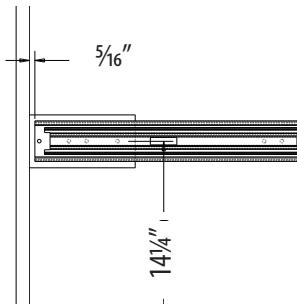

FIG. 7
8. Install front of slide on this mark with the center of the slide at 14 1/4" from cabinet floor (see fig. 6) using any of the front holes and provided #8 x 5/8" screw (both sides) (see fig. 7).